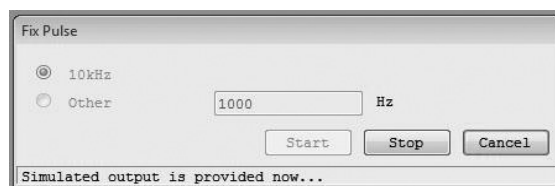

Fig. 3-55
- (4) By clicking "OK" button, the simulated output value you set will be output. While the simulated output value is output, a message "Simulated output is provided now." is displayed at the bottom of the window as shown in Fig. 3-55.